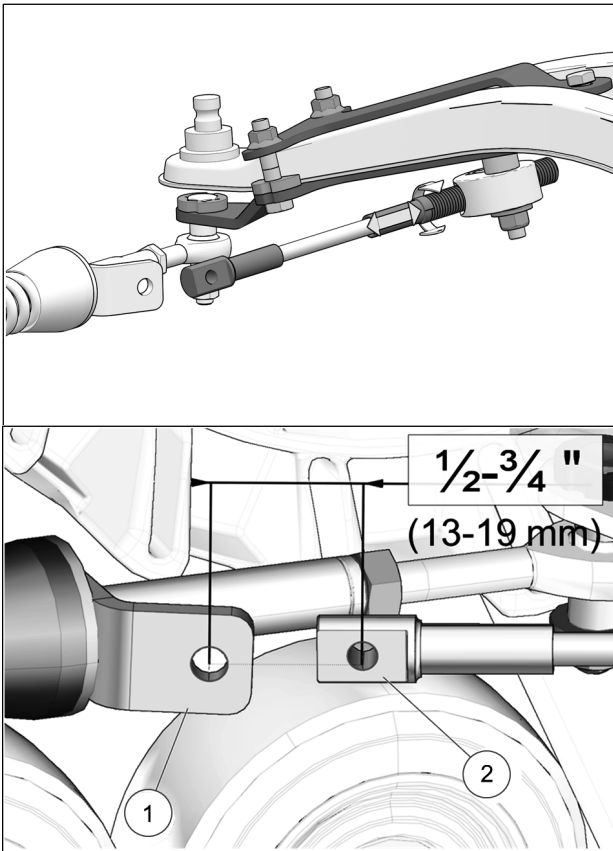

Fig. 23
13. Turn the vehicle's steering wheel to its maximum point of travel on the left. While maintaining pressure on the steering wheel, turn threaded rod to adjust length of cable so that the cable end hole (1) is located 13 to 19 mm [$\frac{1}{2}$ to $\frac{3}{4}$ in.] short of the mounting hole on the support plate (2). See Fig. 23